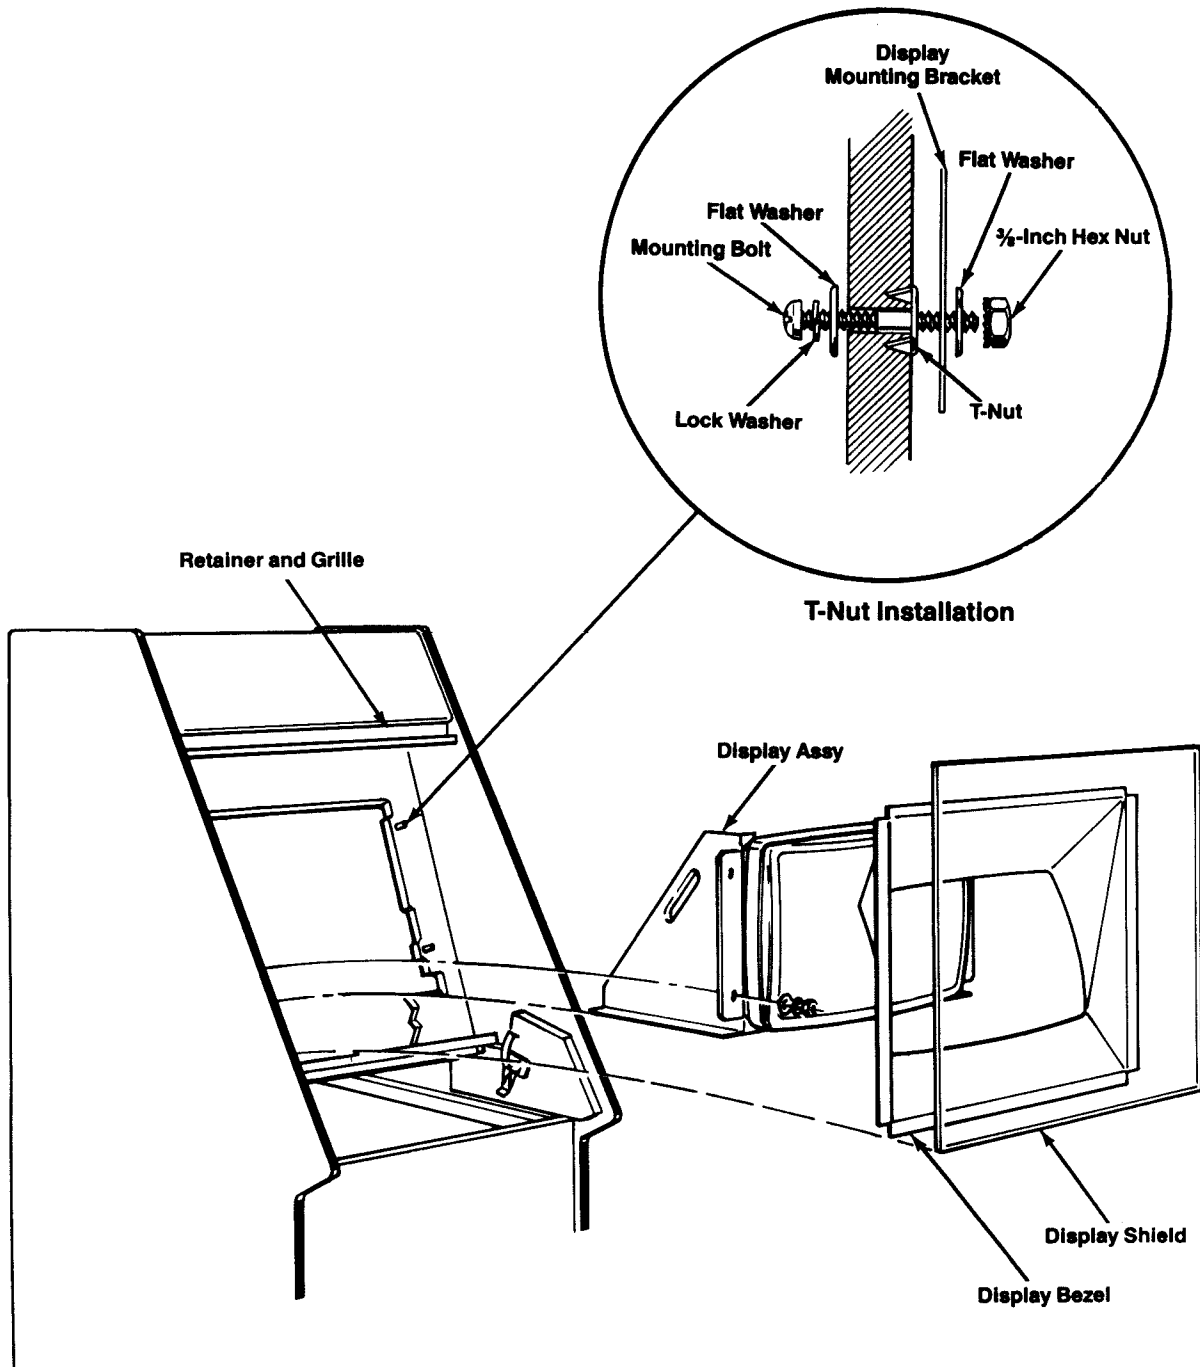

Figure 11 Installing the Display
Perform the following procedure to install the modified display in the game cabinet (see Figure 11).
2. From the rear of the cabinet, use a Phillips screwdriver to secure the four screws, washers, and T-nuts through the newly drilled holes in the display-mounting frame as shown in Figure 11.
3. From the rear of the cabinet, use a Phillips screwdriver to tighten the screws until the T-nuts are firmly imbedded in the display-mounting frame as shown in Figure 11.